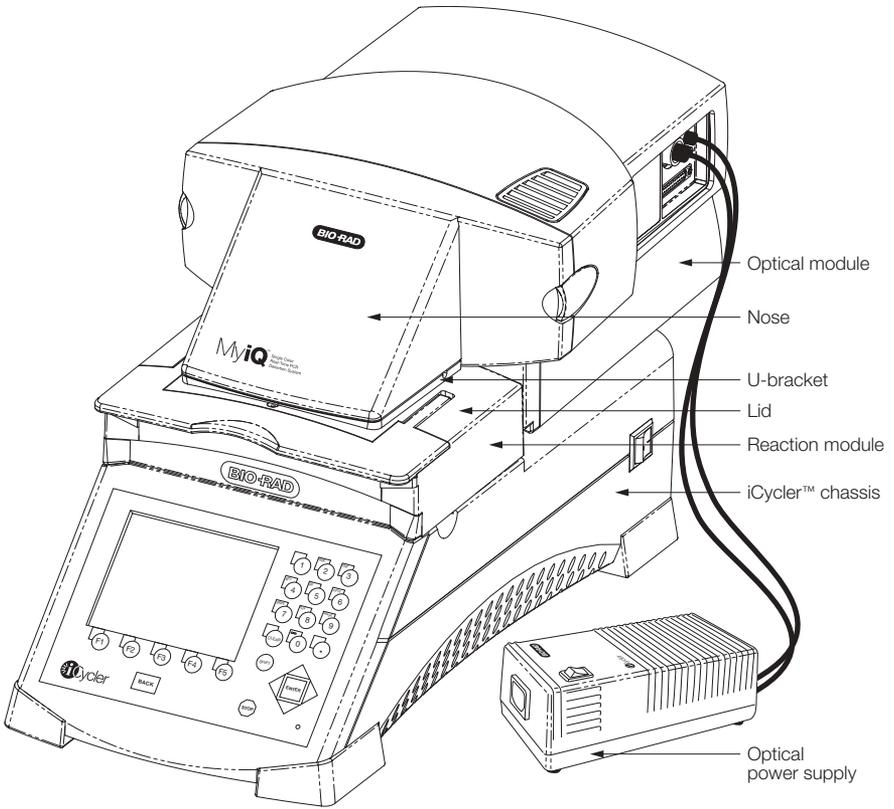

Fig. 1. The MyiQ system.
- Round 9-pin power connector: This provides power to the optical module via the optical power supply. Connect the round 9-pin connector from the optical power supply to the optical module (Figure 1)
- Miniature phone plug connector: This senses when the handle is lifted on the reaction module. When the handle is lifted, the emission filter wheel shifts to the home position, blocking light to the CCD detector. Connect the miniature phone connector from the optical power supply to this connector on the optical module (Figure 1)